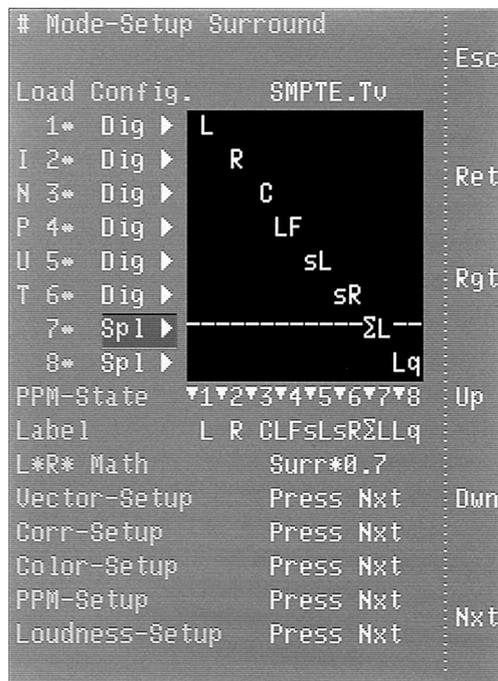

Fig. E 6-6: Mode Setup menu for 3/2 (5.1) surround mode
- Load Config.** Allows to recall a predefined routing of the input channels to the peakmeters and the vectorscope. The configuration can be changed using the matrix and the Up, Dwn, Rgt and Nxt keys as described in the section below Fig. E 6-6.